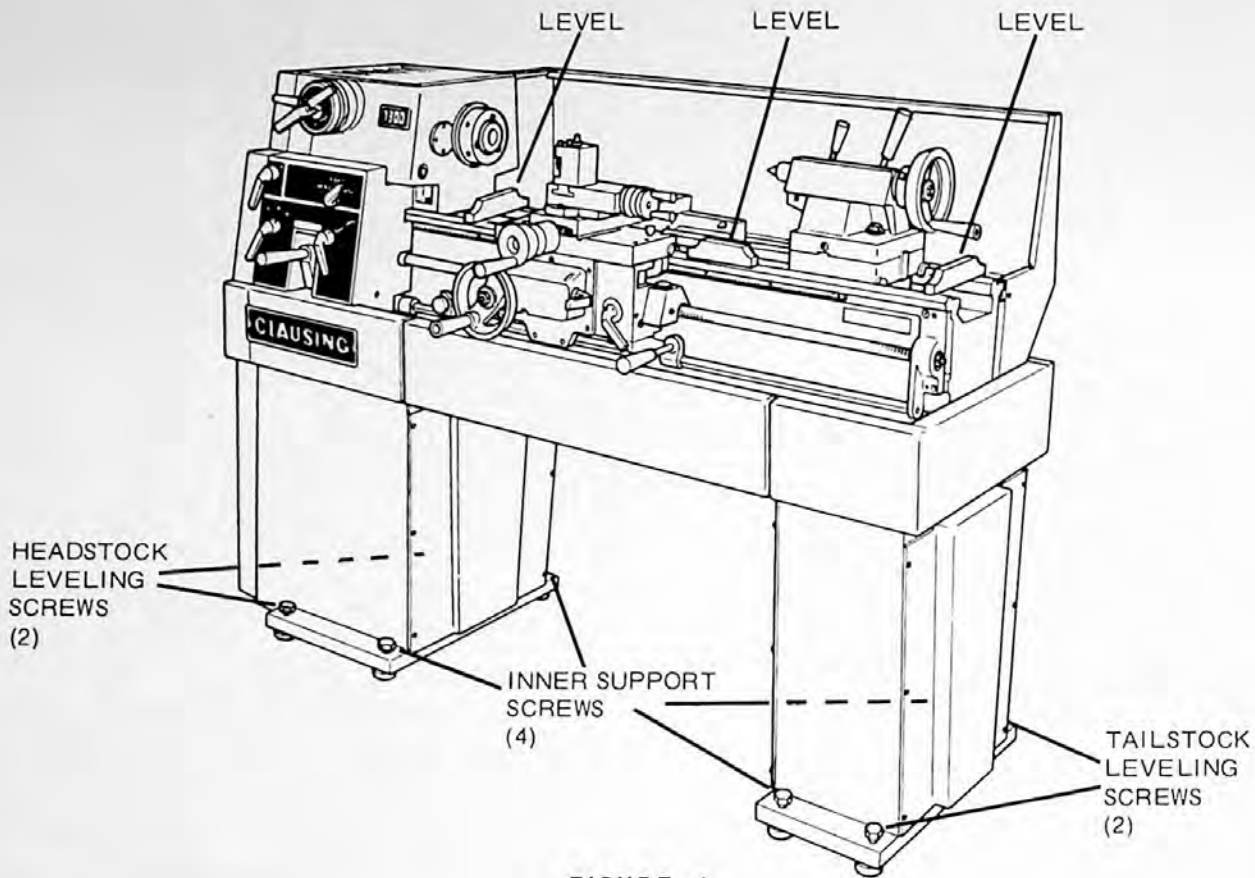

FIGURE 4
1. First level bed longitudinally by turning the leveling screws on the cabinet base – refer to figure 4 for level positions.
2. Next level both ends of the bed. The headstock and the tailstock ends must be checked with the level placed at right angles to the bed. Refer to figure 4. Use a square to align the level. Do not turn level end for end. Compensate for variations of bubble readings by turning the leveling screws until readings are the same at both headstock and tailstock.